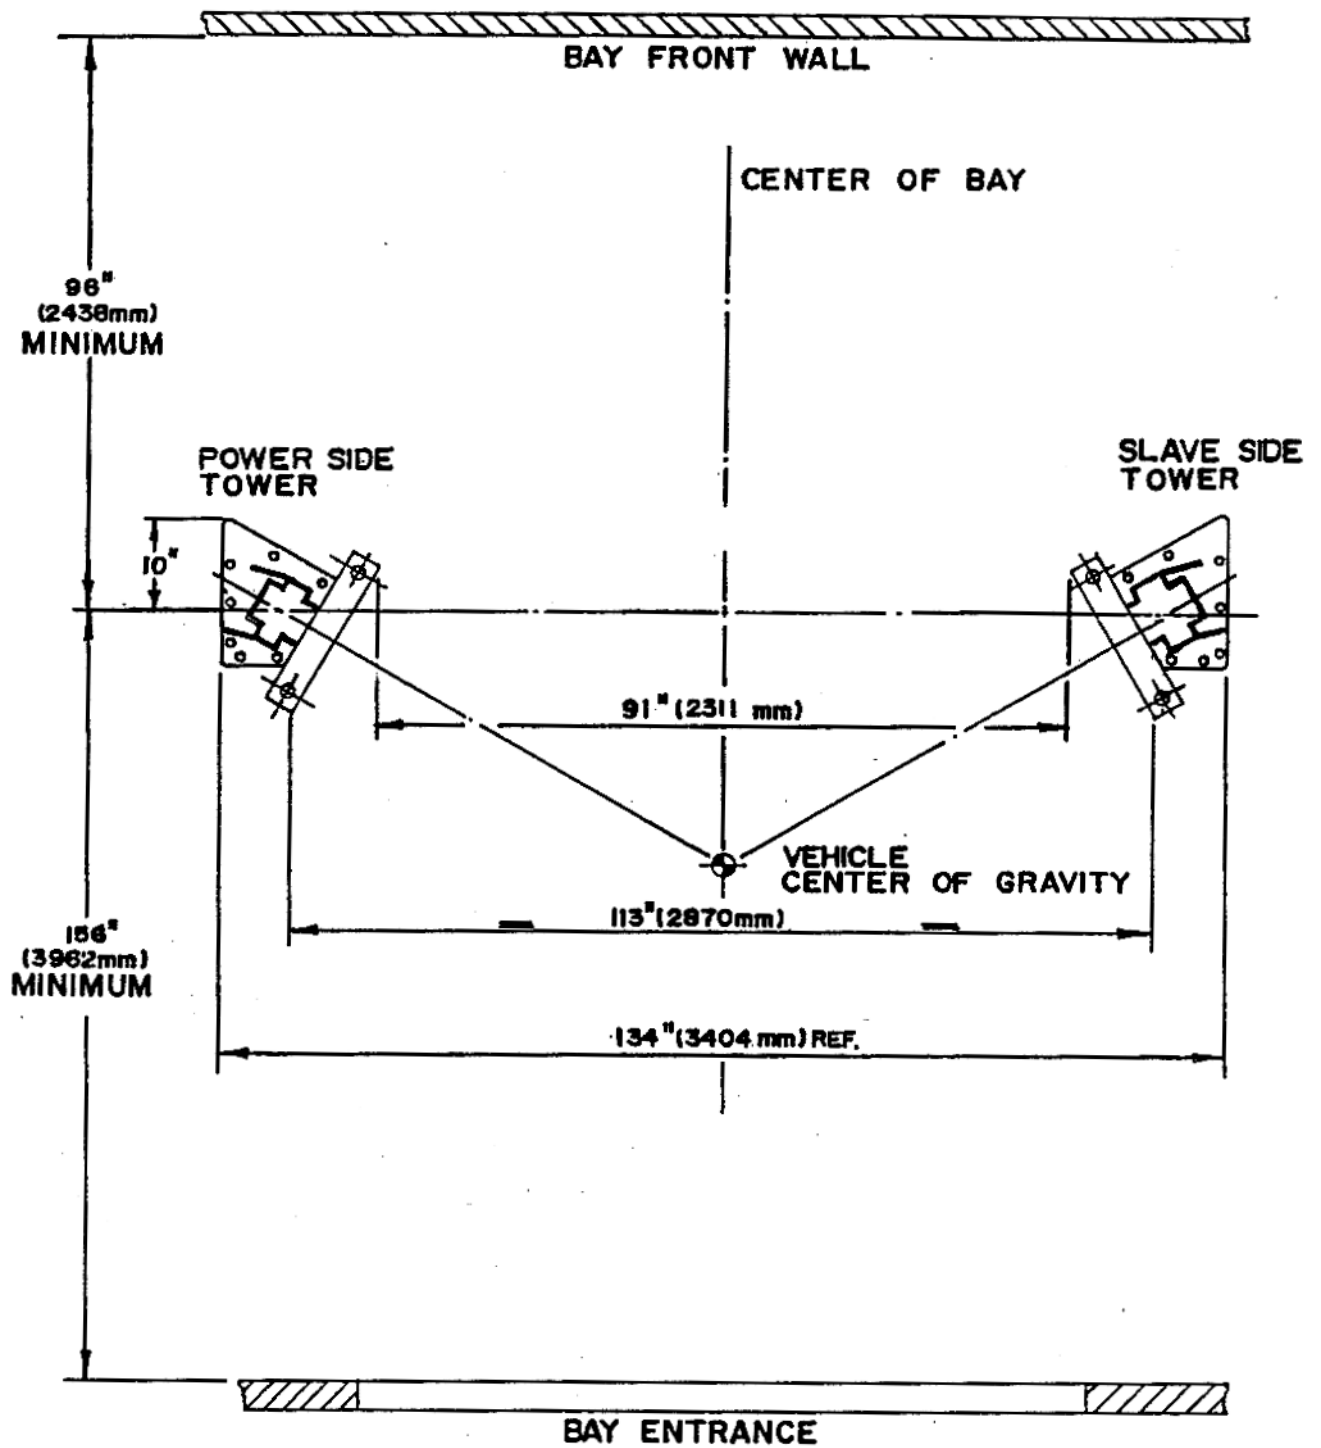

Figure 3 – Bay Layout
7. Prepare the bay by selecting the location of the lift relative to the walls. Clear area of all packaging materials to avoid trip hazards. Draw a chalk line on the floor to represent the center line of the bay and a second chalk line crossing at 90° for locating the lift towers. Refer to **Figure 3**.
1. Locate the power side and slave side tower to the relative position as shown on **Figure 3**. Double check all dimensions.
2. Using a step ladder, install the crossmember. Raise and place the crossmember mounting hooks over the top of the tower. Install and **tighten** the crossmember using four (4) 1/2"-13UNC x 1 1/2"LG. hex head bolts, flat washers, lock washers and hex nuts.
3. Check the towers to make sure they are located, and positioned in the correct location. Refer to **Figure 3**.